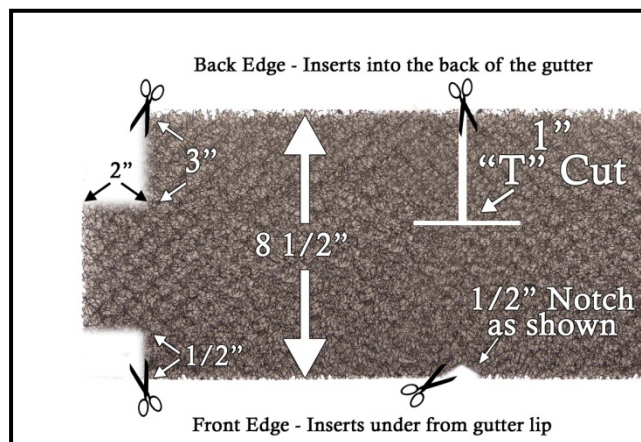

Figure 1 – View from above looking down to the gutter
A. Begin at one end of your gutter. Take your first piece of Flo-Free with the smooth side up, lay it over your gutter allowing it to hang over the end of your gutter by approximately 2 inches (see figure 1). Notch the 2" overhang as shown below. This overhang portion will be used to seal the end of your gutter.